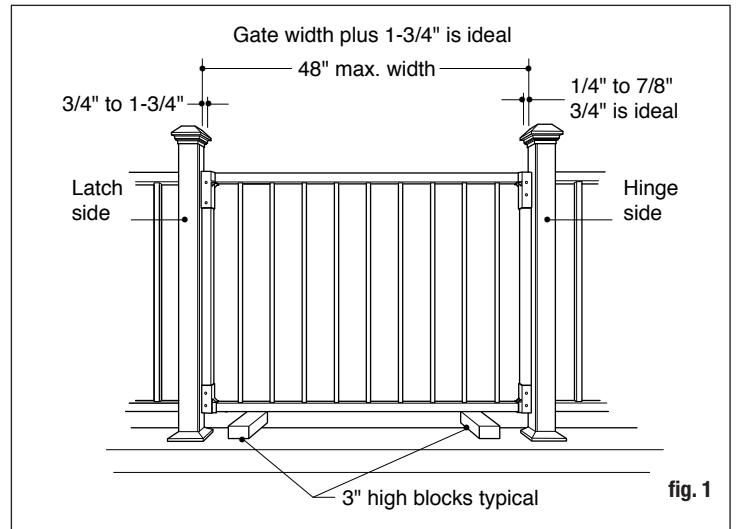
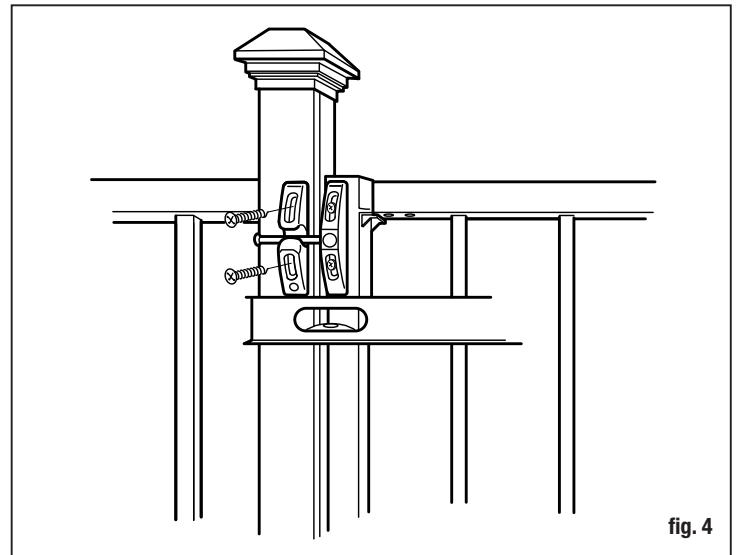

fig. 1
fig. 4
**Step 2** The gate hinges can accommodate gaps from 1/4" – 7/8", but 3/4" is ideal. The latch can accommodate gaps from 3/8" – 1-3/4". Determine the desired spacing and subtract from opening. 1-3/4" is recommended but can range from 5/8" to 2-1/2" (fig. 1).
**Step 8** Prop the gate by positioning precut blocks beneath the bottom rail and between the posts (fig. 1). Spacing of 3" is typical but can be more, or less as allowed by local building codes. Per the model building code all gaps must be less than 4". Ensure bottom of gate will be high enough to clear any obstacles, such as post base trim, if applicable.
**Step 9** Make sure gate is plumb and level and attach hinges (E) to post.
**Step 11** Position the latch (D) over the predrilled holes. Check for level and attach the latch using the #10 x 1" low profile pan head screws provided with the latch and positioned in the center of the screw slots.
**Step 12** Close the gate and using a level, mark the top of the latch on the adjacent post. Position the catch and attach to adjacent post (fig. 4).